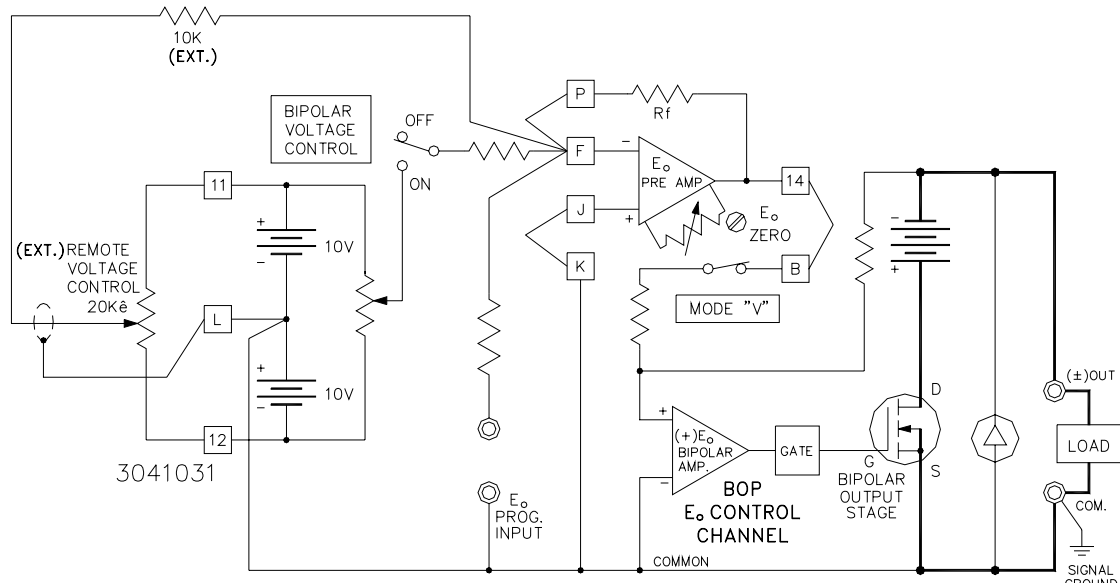

FIGURE 3-7. REMOTE POTENTIOMETER CONTROL OF THE BOP D-C OUTPUT VOLTAGE
- A) As shown in FIG. 3-7, this control method can be performed remotely by setting the BIPOLAR VOLTAGE CONTROL SWITCH to the OFF position and by connecting a 10K ohm external resistor and a 20K ohm external potentiometer as shown in Figure 3-7.